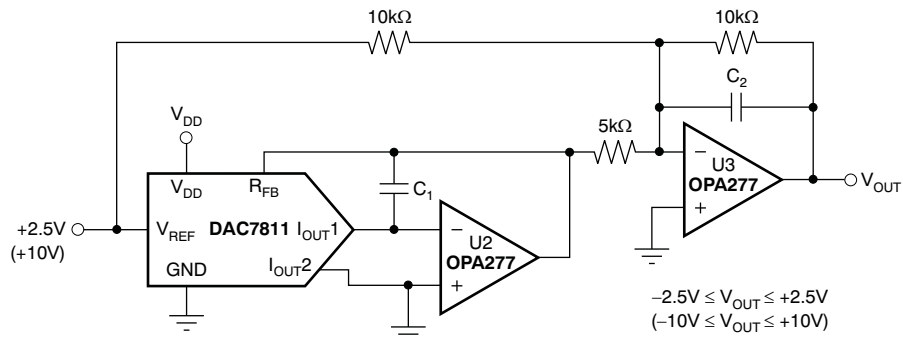

Figure 31. Bipolar Output Circuit
Some applications require full 4-quadrant multiplying capabilities or bipolar output swing. As shown in Figure 31, external op amp U3 is added as a summing amp and has a gain of 2X that widens the output span to 5V. A 4-quadrant multiplying circuit is implemented by using a 2.5V offset of the reference voltage to bias U3. According to the circuit transfer equation given in Equation 2, input data (D) from code 0 to full-scale produces output voltages of $V_{OUT} = -2.5V$ to $V_{OUT} = +2.5V$.
External resistance mismatching is the significant error in Figure 31.